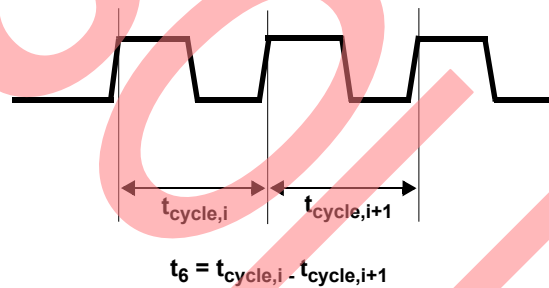

Figure 3. 54MOUT, LCLK Cycle-to-Cycle Jitter
12. LCLK and 54MOUT Cycle-Cycle Jitter shown in Figure 3.